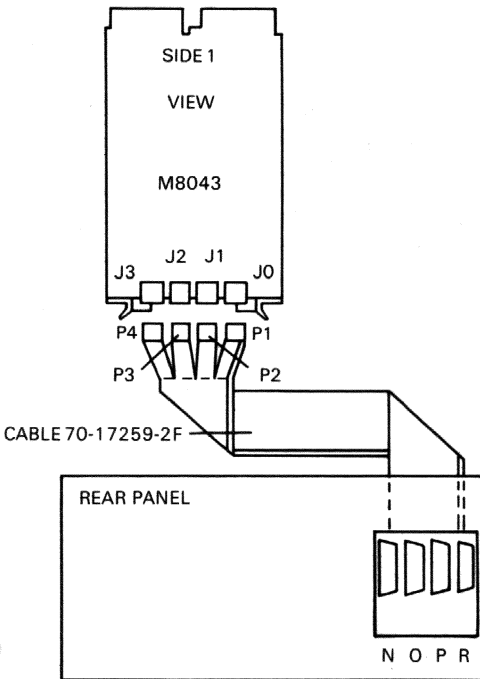

Figure 26 Cable Layout
6. Fit cable connections to PCB (see Figure 26)